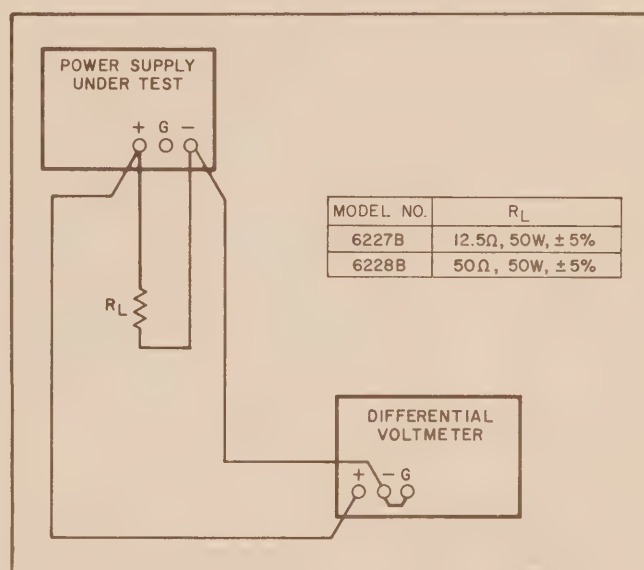

Figure 5-2. Constant Voltage Load Regulation Test Setup
- Connect load resistor (R_L) indicated in Figure 5-2 across output terminals of supply.
- Connect test setup shown in Figure 5-2.
- Connect load resistance and differential voltmeter as illustrated in Figure 5-2.